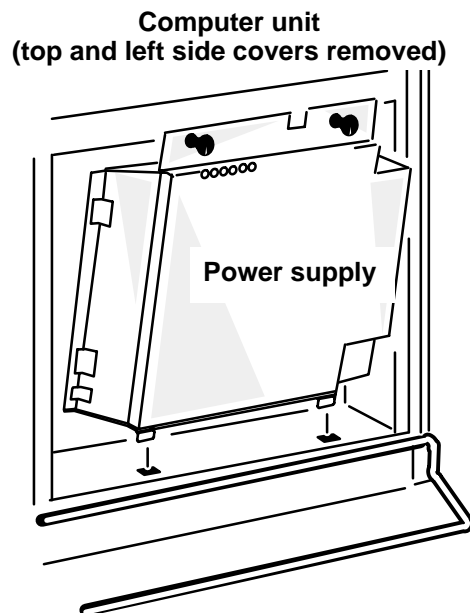

Figure 12-4 Removing the Power Supply
4. Lift the power supply up and then out of the computer unit as shown in Figure 12-4.